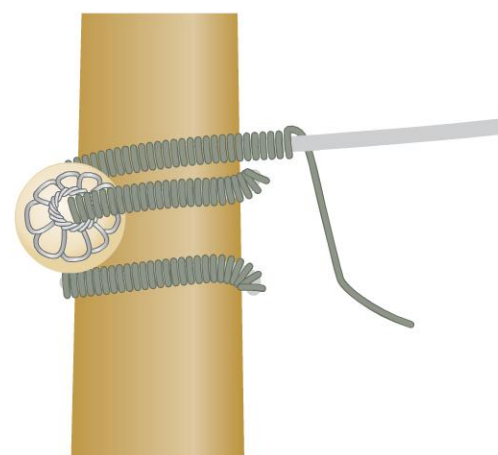

figure 3
- 6 Remove the ring from the mandrel, turn it over, and place it back on the mandrel. Repeat Step 5 (Figure 3).